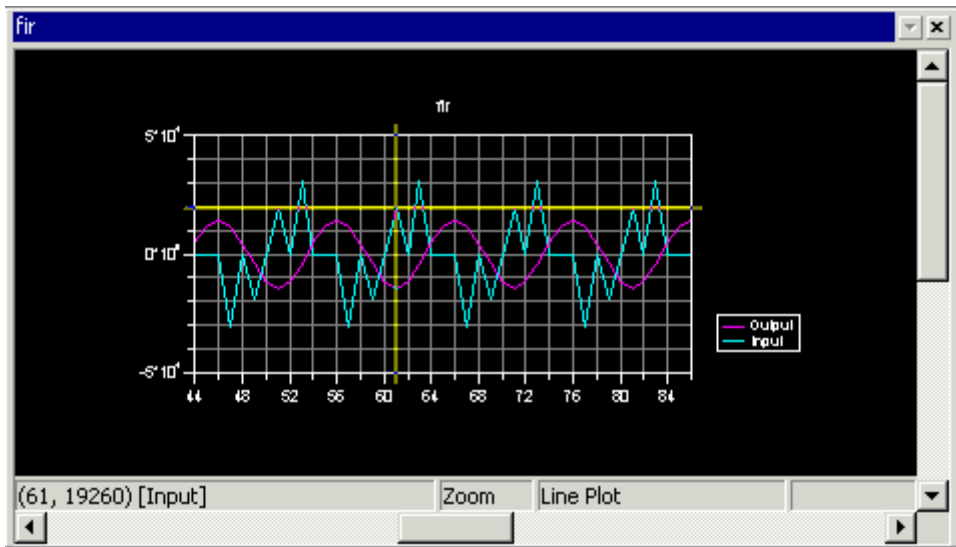

Figure 2-31. Plot Window: Using the Data Cursor Feature
3. Right-click inside the plot window and choose **Data Cursor** from the popup menu. Move to each data point in the current data set by pressing and holding the Left ( $\leftarrow$ ) or Right ( $\rightarrow$ ) arrow key on the keyboard. To switch data sets, press the Up ( $\uparrow$ ) or Down ( $\downarrow$ ) arrow key. The value of the current data point appears in the lower-left corner of the plot window, as shown in Figure 2-31 on page 2-45.